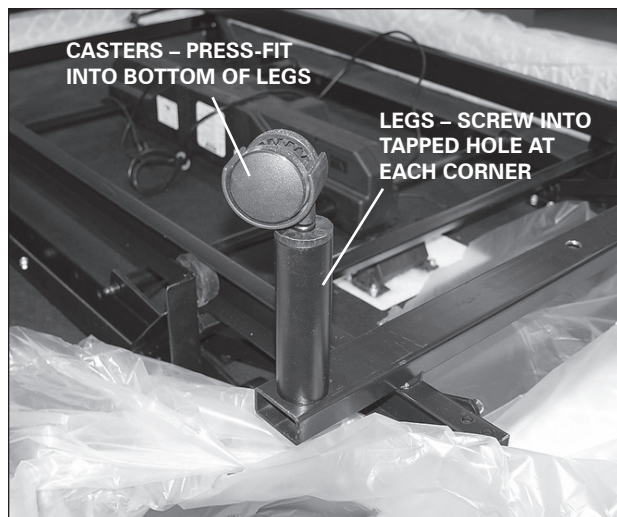

FIGURE 1: Leg and caster installation.
- Install (4) legs into the base frame. Simply screw each leg into a tapped hole at each corner of the base frame (**FIGURE 1**). Insert casters into the bottom of each bed leg.